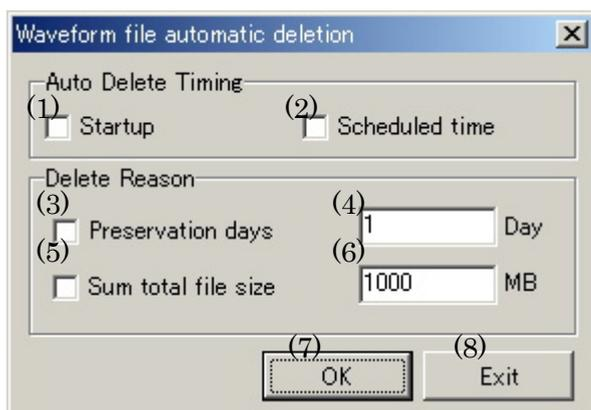

Fig.7-1-2 Waveform file automatic deletion setting screen
| (11) | Auto Deletion | The automatic deletion setting screen of a waveform file opens.(Fig. 7-1-2) |